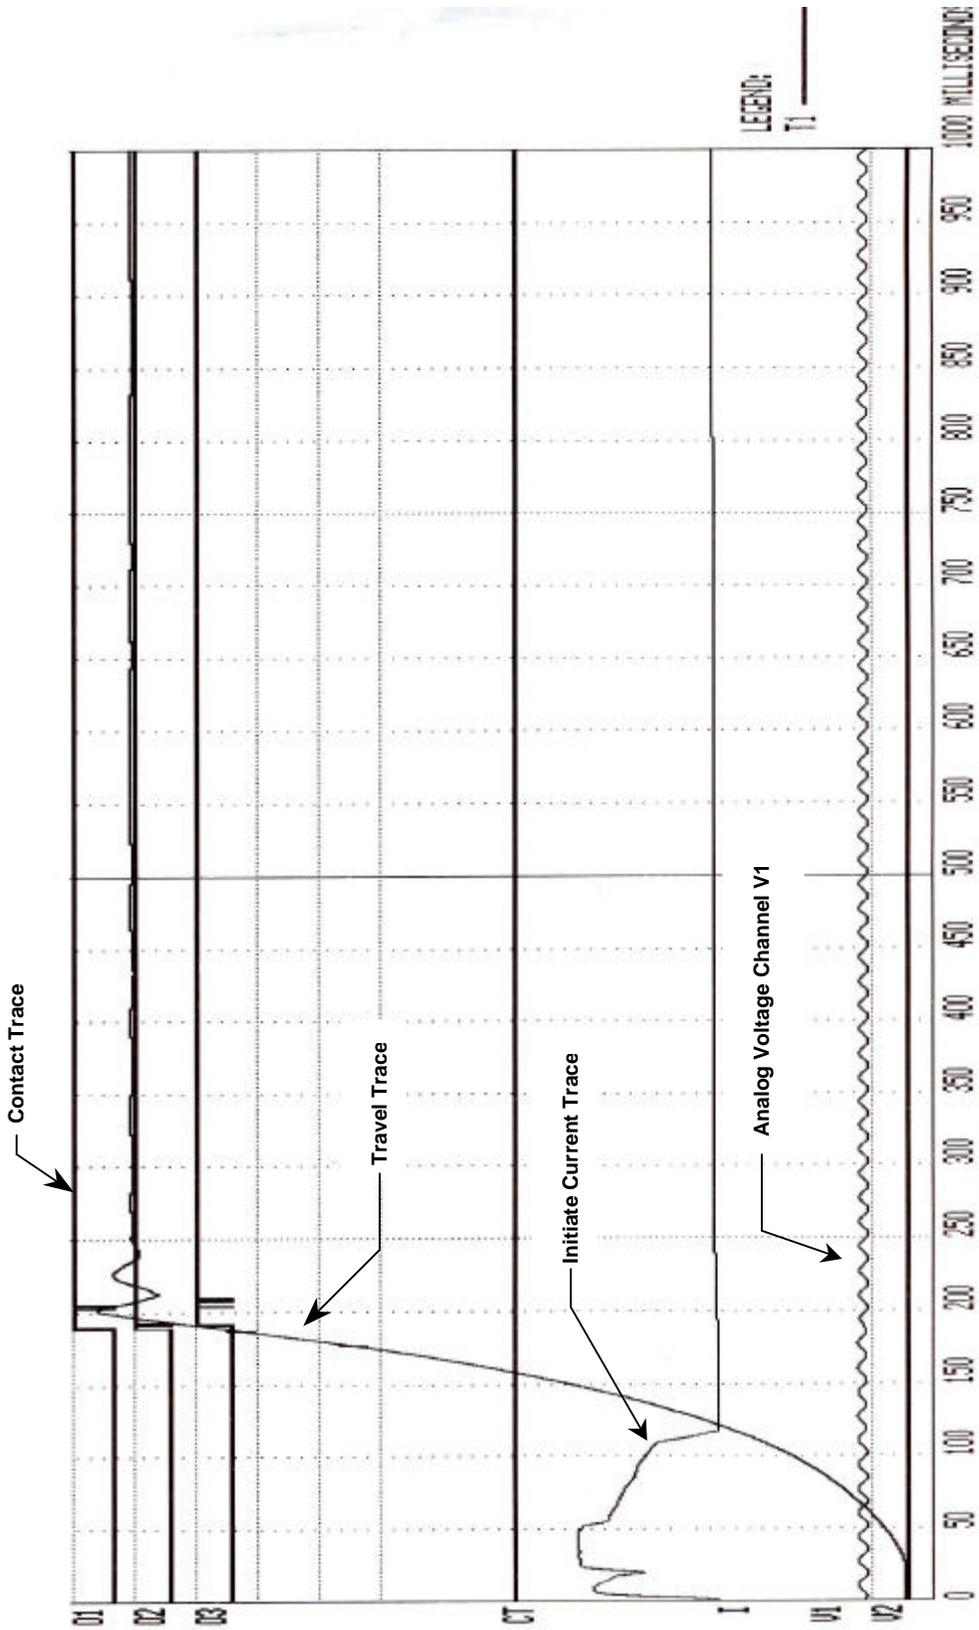

Figure 15.0 Typical Graphic Result Printed on Thermal Printer
3. Typical graphic results are show in figures 15.0 and 18.0.